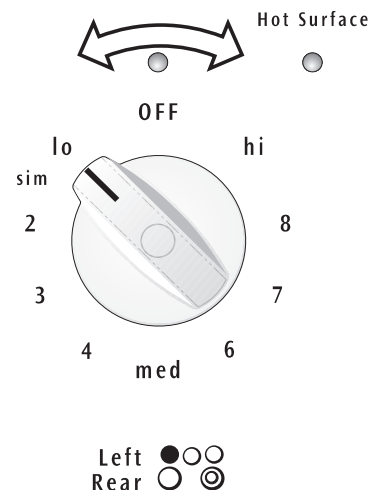

Fig. 3
2. Push in & turn the surface control knob in either direction to the desired setting (Refer to the **Suggested Radiant Surface Element Settings Table** & Fig. 3). Start most cooking operations on a higher setting and then turn to a lower setting to finish cooking. The surface control knobs do not have to be set exactly on a particular mark. Use the marks as a guide and adjust the control knob as needed. Each surface element provides a constant amount of heat at each setting. A glowing red surface heating area extending beyond the bottom edge of the cookware indicates the cookware is **too small** for the surface heating area.